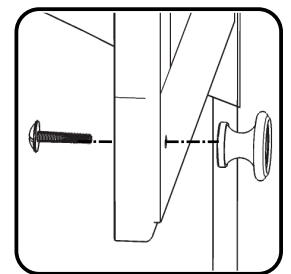

Figure 4
Attach Knobs to Doors (K) and (L) with Machine Screws. (See Figure 4)